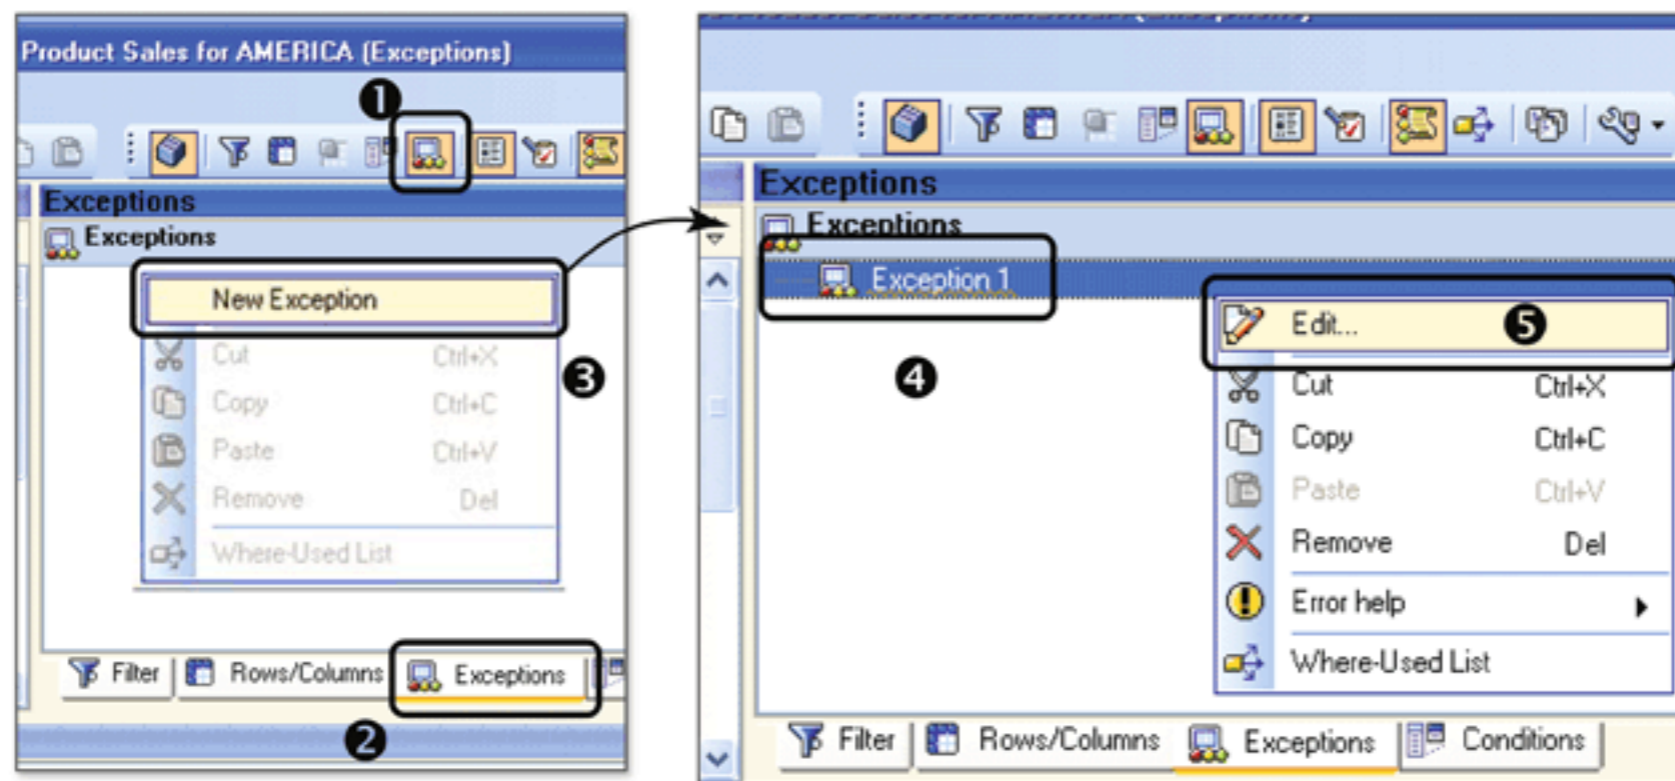

Figure 9.86 Create a New Exception
Display the EXCEPTIONS area in BEx Query Designer by clicking on the EXCEPTIONS icon, as shown in ❶ of Figure 9.86. The EXCEPTIONS area will be visible as shown in ❷. Create a new exception by selecting NEW EXCEPTION from the context menu in the EXCEPTIONS area.